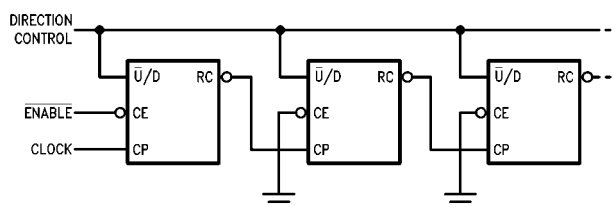
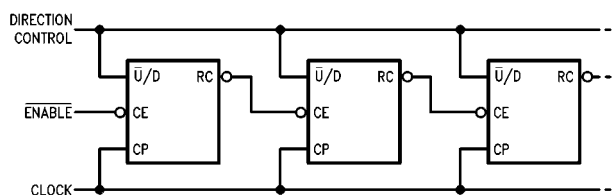

FIGURE 1. N-Stage Counter Using Ripple Clock
FIGURE 2. Synchronous N-Stage Counter Using Ripple Carry/Borrow
The TC signal is also used internally to enable the Ripple Clock (RC) output. The RC output is normally HIGH. When $\overline{\text{CE}}$ is LOW and TC is HIGH, RC output will go LOW when the clock next goes LOW and will stay LOW until the clock goes HIGH again. This feature simplifies the design of multistage counters, as indicated in Figure 1 and Figure 2. In Figure 1, each RC output is used as the clock input for the next higher stage. This configuration is particularly advantageous when the clock source has a limited drive capability, since it drives only the first stage. To prevent counting in all stages it is only necessary to inhibit the first stage, since a HIGH signal on $\overline{\text{CE}}$ inhibits the RC output pulse, as indicated in the RC Truth Table. A disadvantage of this configuration, in some applications, is the timing skew between state changes in the first and last stages. This represents the cumulative delay of the clock as it ripples through the preceding stages.
A method of causing state changes to occur simultaneously in all stages is shown in Figure 2. All clock inputs are driven in parallel and the RC outputs propagate the carry/borrow signals in ripple fashion. In this configuration the LOW state duration of the clock must be long enough to allow the negative-going edge of the carry/borrow signal to
The configuration shown in Figure 3 avoids ripple delays and their associated restrictions. The $\overline{\text{CE}}$ input for a given stage is formed by combining the TC signals from all the preceding stages. Note that in order to inhibit counting an enable signal must be included in each carry gate. The simple inhibit scheme of Figure 1 and Figure 2 doesn't apply, because the TC output of a given stage is not affected by its own $\overline{\text{CE}}$.